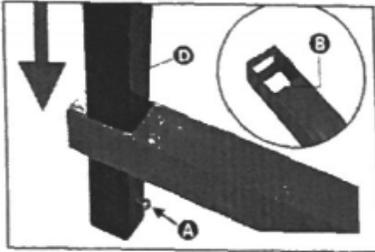

Figure 1
1. Locate the bottom of the long vertical bar. It has a small screw hole $\frac{1}{2}$ inch (13mm) from the end. Insert a screw **A**. Locate the bottom of an orange horizontal bar **B**. It has a small notch as shown in the insert photo. Slide the orange bar down the length of the vertical bar from the top until it rests in position against the screw. Figure 1